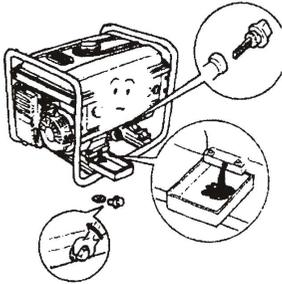

Figure 36
2.1 Unscrew and take out the dipstick (Figure 36)